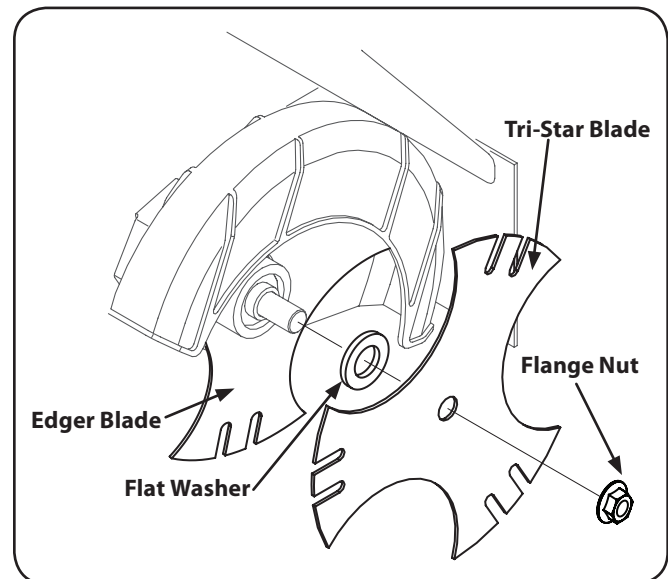

Figure 5-5
1. Use two wrenches (one wrench to prevent the hex bolt head from spinning and the other to unthread the flange nut) to remove the flange nut that secures the edger blade, leaving the edger blade in place. See Figure 5-5.
2. Install the additional edger blade supplied with your machine and the flat washer. See Figure 5-5.